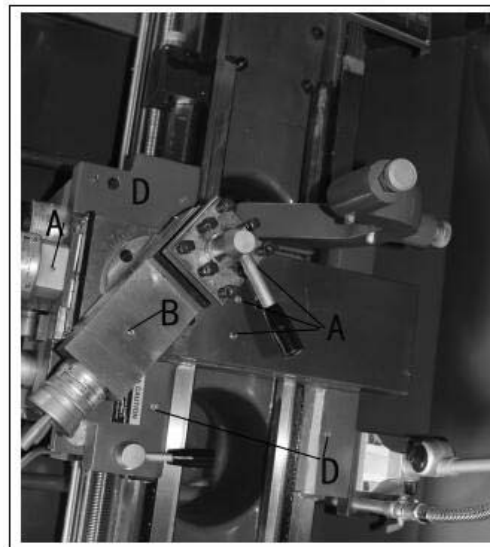

Figure 9
6. **Cross Slide** – Lubricate four ball oilers (A, Fig. 9) with Mobil DTE® Oil Heavy Medium once daily.
7. **Compound Rest** – Lubricate one ball oiler (B, Fig. 9) with Mobil DTE® Oil Heavy Medium once daily.
8. **Carriage** – Lubricate four ball oilers (D, Fig. 9) with Mobil DTE® Oil Heavy Medium once daily.